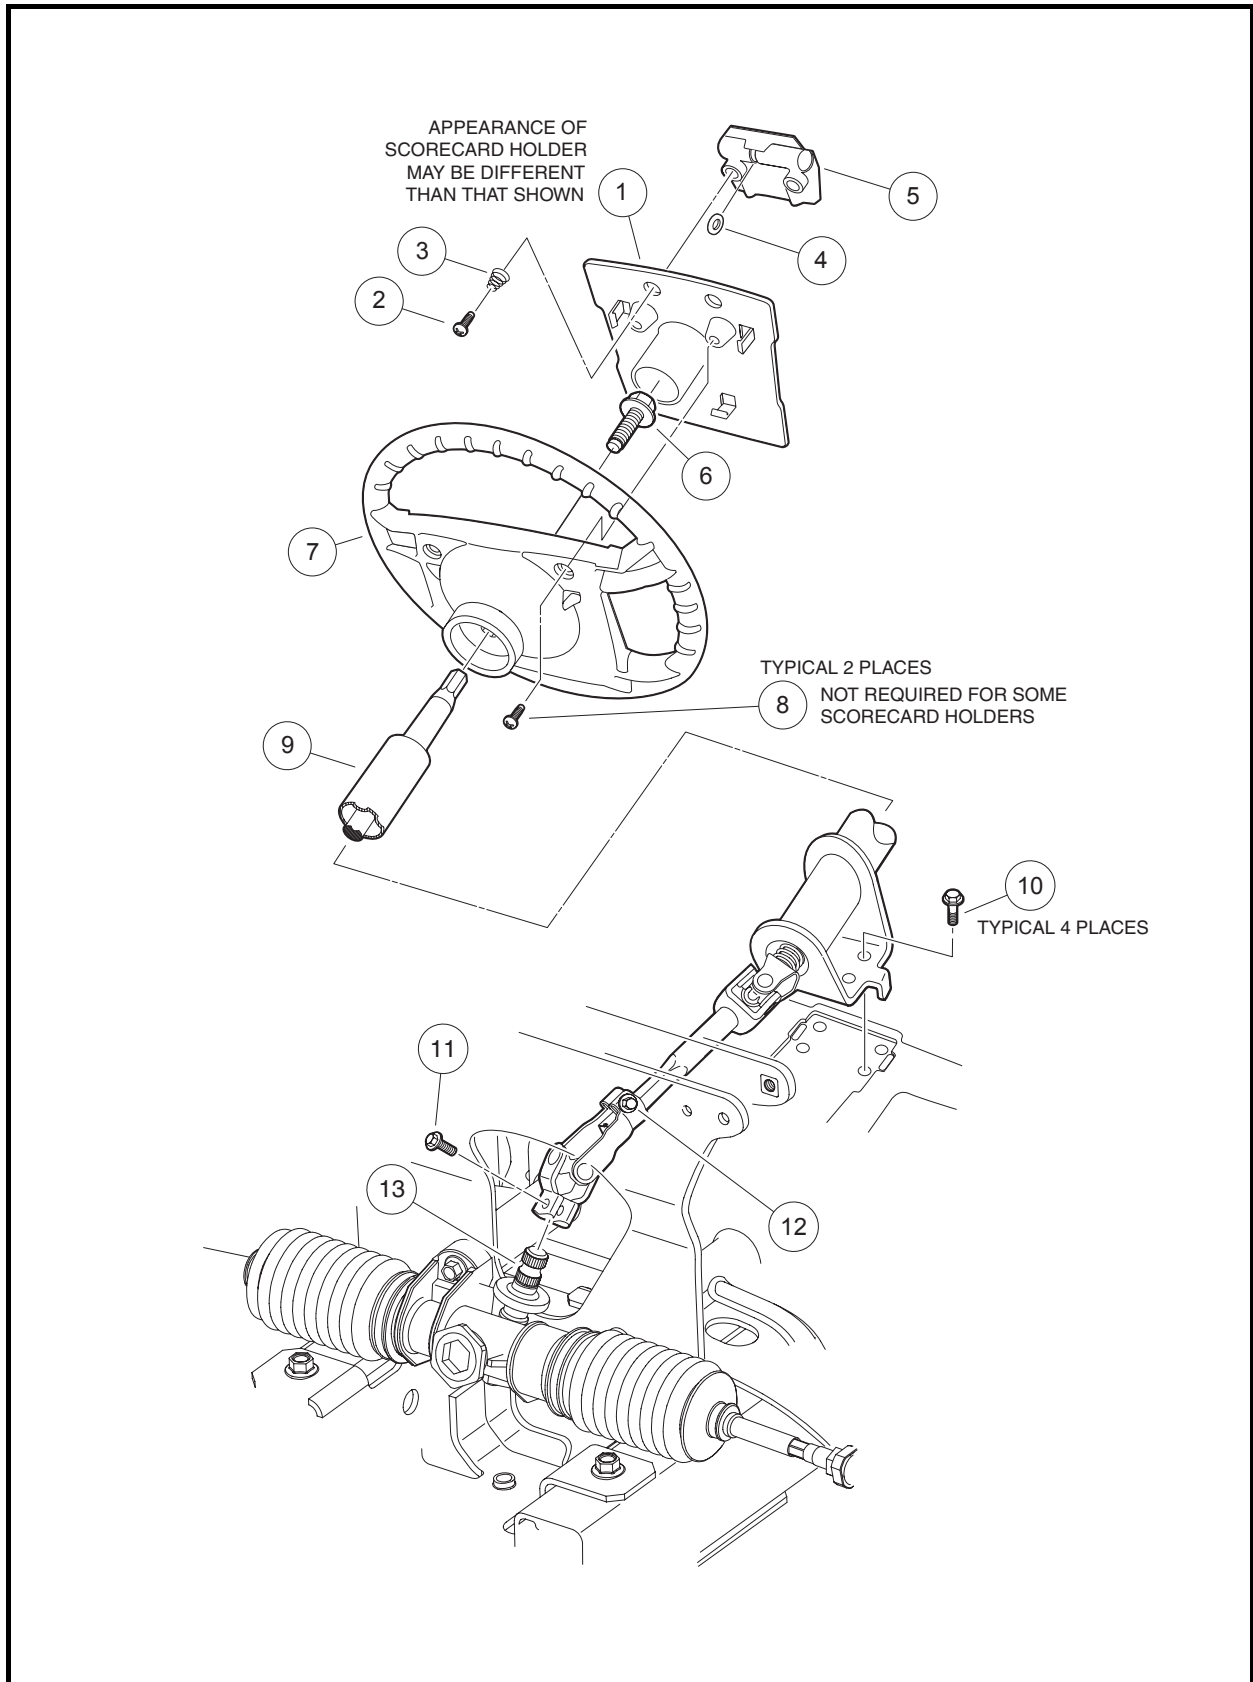

Figure 7-3 Steering Column
2. If scorecard holder is secured to steering wheel with screws, remove the two mounting screws (8) (**Figure 7-3, Page 7-3**).
3. Remove the scorecard holder plate (1).
4. Match mark the steering wheel (7) and steering column shaft (9) so when the steering wheel is removed it can be placed back in exactly the same position on steering column shaft.
5. Loosen the steering wheel bolt (6) and back it off approximately 1/4 inch (6 mm). Do not remove the bolt.
7. Remove the steering wheel bolt (6) and the steering wheel (7) from the steering column (9) (**Figure 7-3, Page 7-3**).
1. Install the steering wheel (7) on the steering column shaft (9). Be sure to align the match marks placed on the wheel and steering column in step 4 above (**Figure 7-3, Page 7-3**).
2. Install the steering wheel bolt (6) and tighten to 13 ft-lb (17.6 N-m).
3. Install the scorecard plate (1).
4. If required, install the plate mounting screws (8). Tighten screws to 16 in-lb (1.8 N-m).
4. Loosen the bolt (11) that attaches the steering column universal joint to the stud on the steering gear (**Figure 7-3, Page 7-3**).
5. Remove the four bolts (10) that attach the steering column to the frame.
2. Insert the end of the steering column with the universal joint through the front underbody. Position universal joint over splined stud on the steering gear. Leave bolt (11) loose until steering column is mounted to frame in step 3 (**Figure 7-3, Page 7-3**).
3. Align the holes in the steering column mounting bracket with holes in the vehicle frame. Secure column to frame with four bolts (10). Tighten bolts to 18.4 ft-lb (25 N·m).
4. Tighten universal joint bolt (11) to 18.4 ft-lb (25 N·m). Verify bolt (12) torque is 18.4 ft-lb (25 N·m).
2. Align the flat portion of the shaft (13) spline with the bolt hole in the upper universal joint and then slide the shaft into the universal joint. Install the bolt and tighten to 18.4 ft-lb (25 N·m) (**Figure 7-3, Page 7-3**).